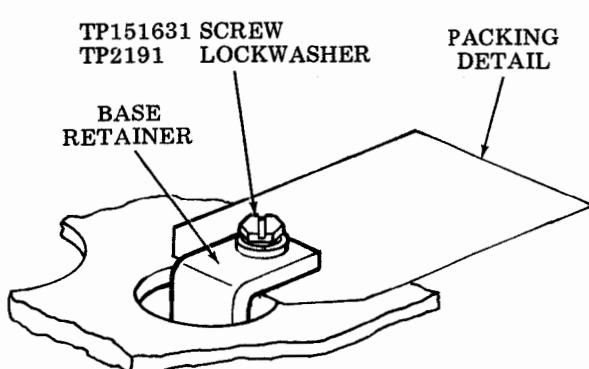

Figure 8 - Base Retainers
4.01 Remove the 6-40 screws from the two base retainers (Figure 8). DO NOT REMOVE THE BASE RETAINERS. Remove packing detail between base and pan. When